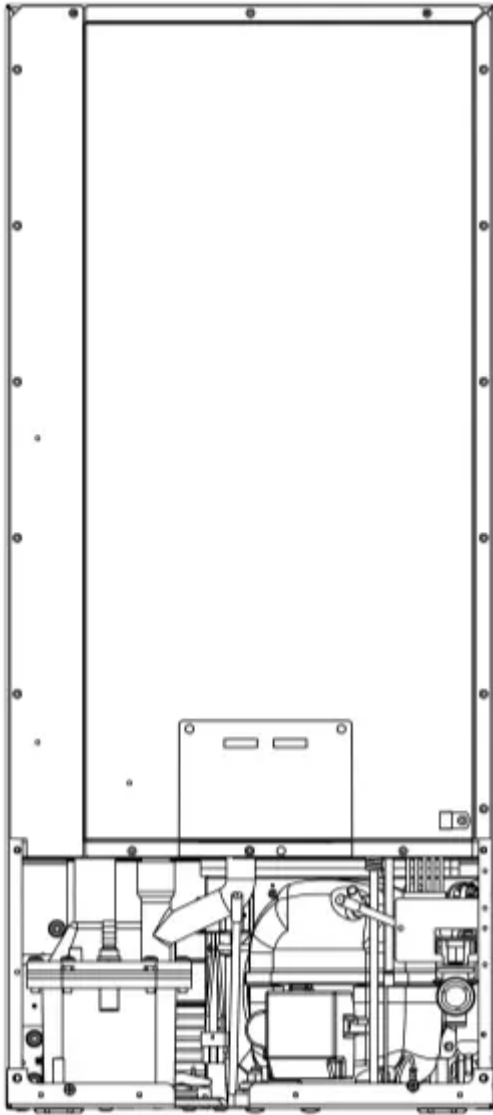

Figure 48
7. Disconnect the water valve's outlet water line to the reservoir and drain the remaining water left in the water line trap area. (See Figure 48 and 48a).
(See Figure 48 and 48a).